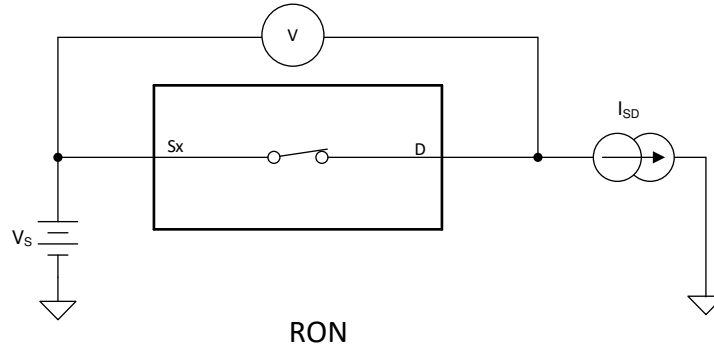

图 8-1. On-Resistance Measurement Setup
The on-resistance of a device is the ohmic resistance between the source (Sx) and drain (D) pins of the device. The on-resistance varies with input voltage and supply voltage. The symbol R_{ON} is used to denote on-resistance. 图 8-1 shows the measurement setup used to measure R_{ON} . Voltage (V) and current (I_{SD}) are measured using this setup, and R_{ON} is computed with $R_{ON} = V / I_{SD}$: